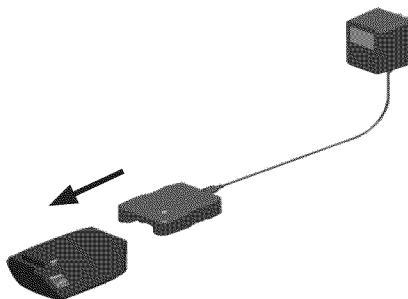

Figure 2 - Sliding Charger onto Battery
3. Slide the charger onto the battery pack as shown in Figure 2. The LED will light up. Let the battery pack charge until red LED turns off. After the initial charge, under normal usage, your battery pack should be fully charged in 3 to 9 hours.